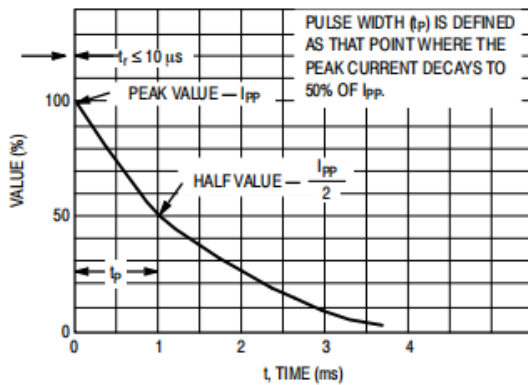

Figure 5. Pulse Waveform
- Peak Power – 24 or 40 Watts @ 1.0 ms (Unidirectional), per Figure 5 Waveform
1. Nonrepetitive current pulse per Figure 5 and derate above $T_A = 25^\circ\text{C}$ per Figure 6.
5. Surge current waveform per Figure 5 and derate per Figure 6